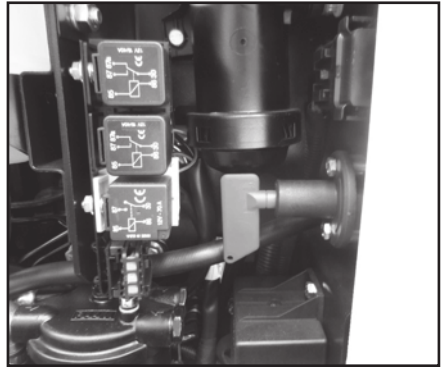

Fig. 5.18.1
- Switch in the "ON" position: electrical system powered (Fig. 5.18.1);